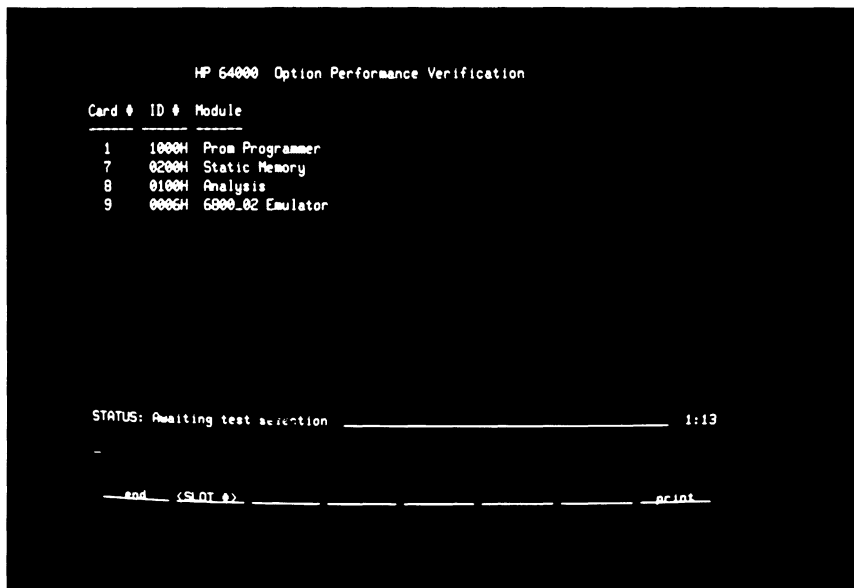

Figure 4-2. Option Map
- b. The CRT will now display a bus map listing the installed option modules with their corresponding card slot numbers as shown in figure 4-2. Enter the slot number indicated for the 6800_02 emulator. For example, if the 6802 Emulator Control Board is in slot 9, enter: